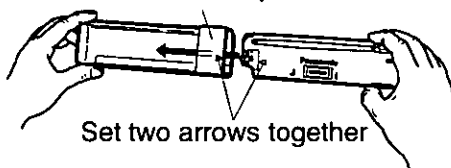

Fig. 3
- ④ As shown in Fig.3, insert the removable face plate with the arrow pointing toward the removable face plate case until you hear a "click". Keep the removable face plate in the case. Then, you can bring the plate safety.
④ Removable face plate case